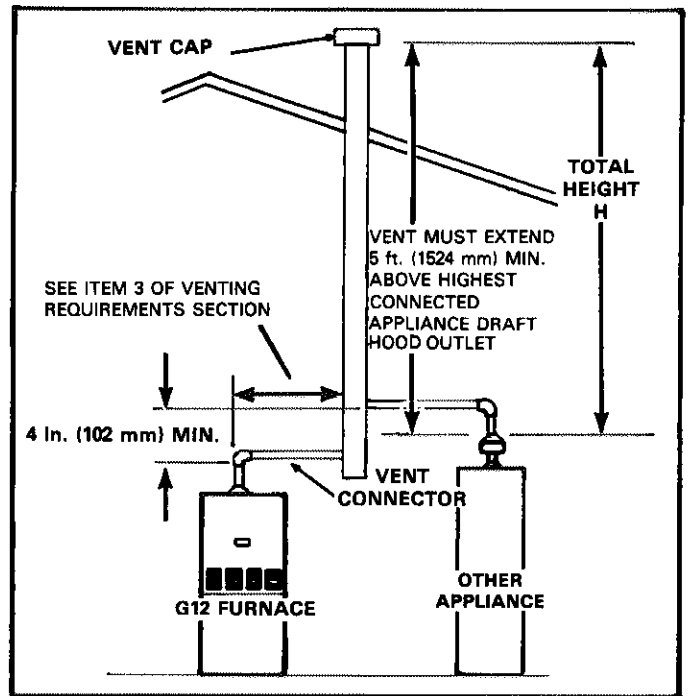

FIGURE 11
- 1 - In all cases, the gas vent or chimney must be sized and installed per the requirements of all applicable local building codes or, in the absence of local codes, the National Fuel Gas Code (ANSI-Z223.1-1984). Use table 5 to size type B, double-wall vent pipe serving two or more gas appliances. For single-wall vent sizing, see table 6. For masonry chimneys serving more than one appliance, see table 7. Figure 11 is used in sizing venting systems for common venting applications.